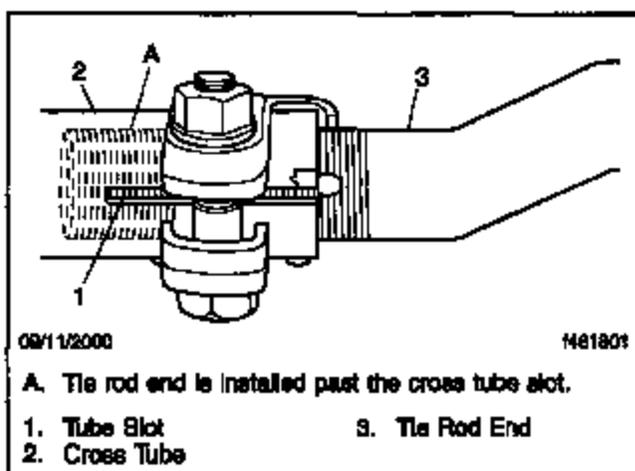

Fig. 7, Bottom View of Tie Rod End and Cross Tube
1. Use the thread count as a guide and install the tie rod ends in the threaded cross tube ends to the approximate depth marked during the tie rod assembly removal. Both tie rod ends must be installed in the cross tube deeper than the end of the cross tube slot. See Fig. 7.